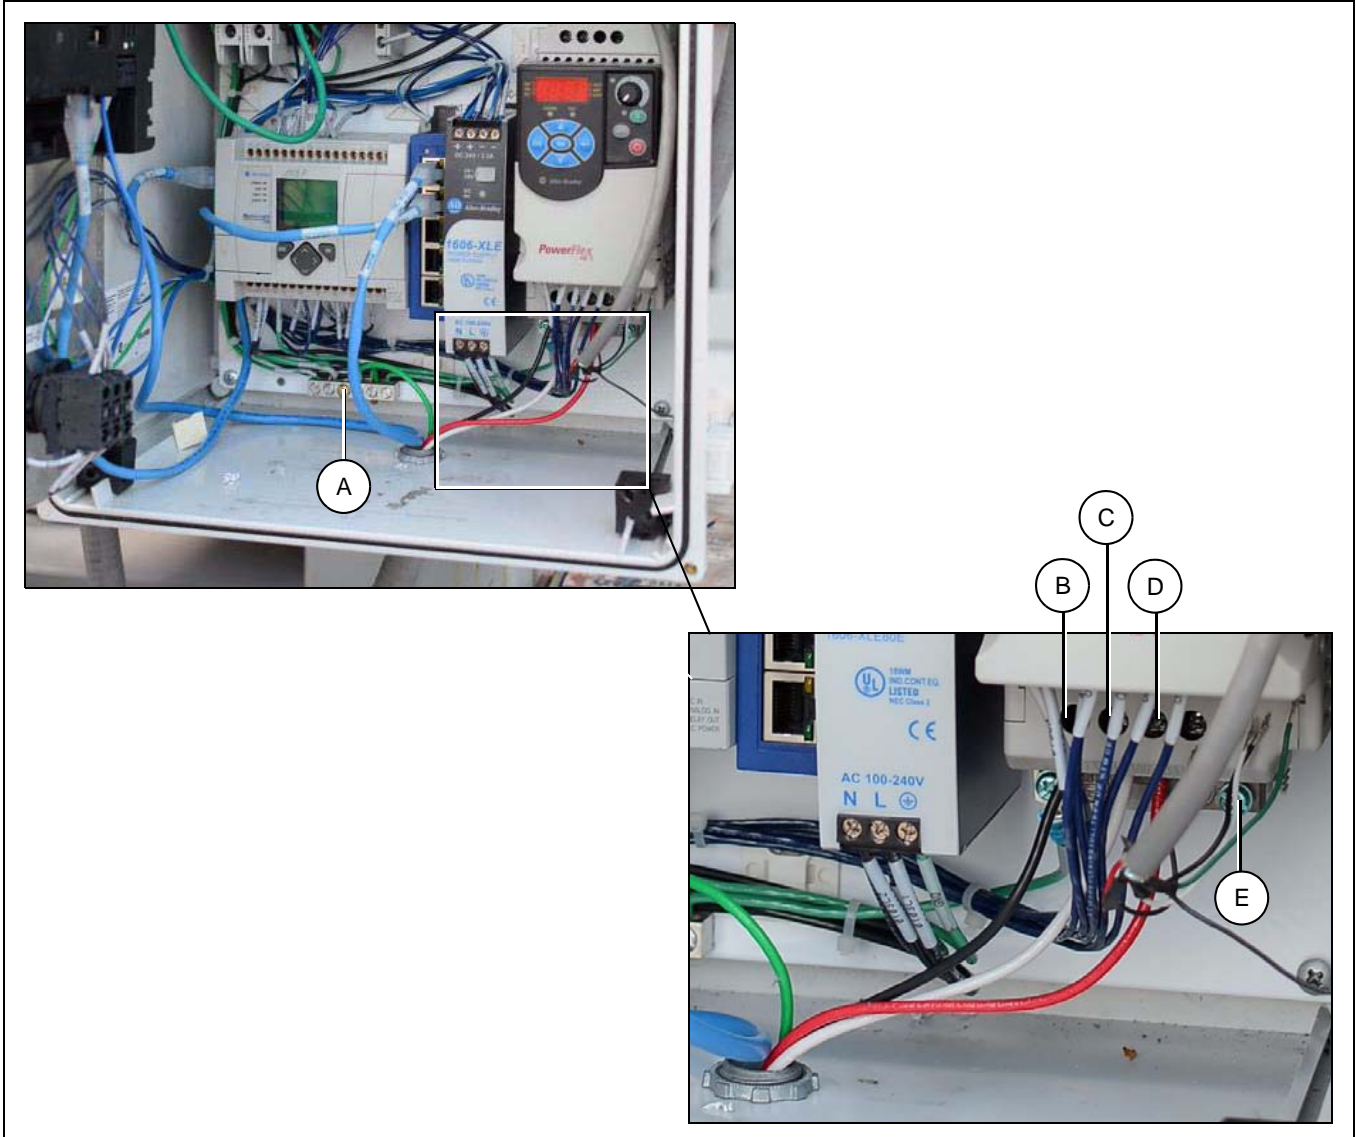
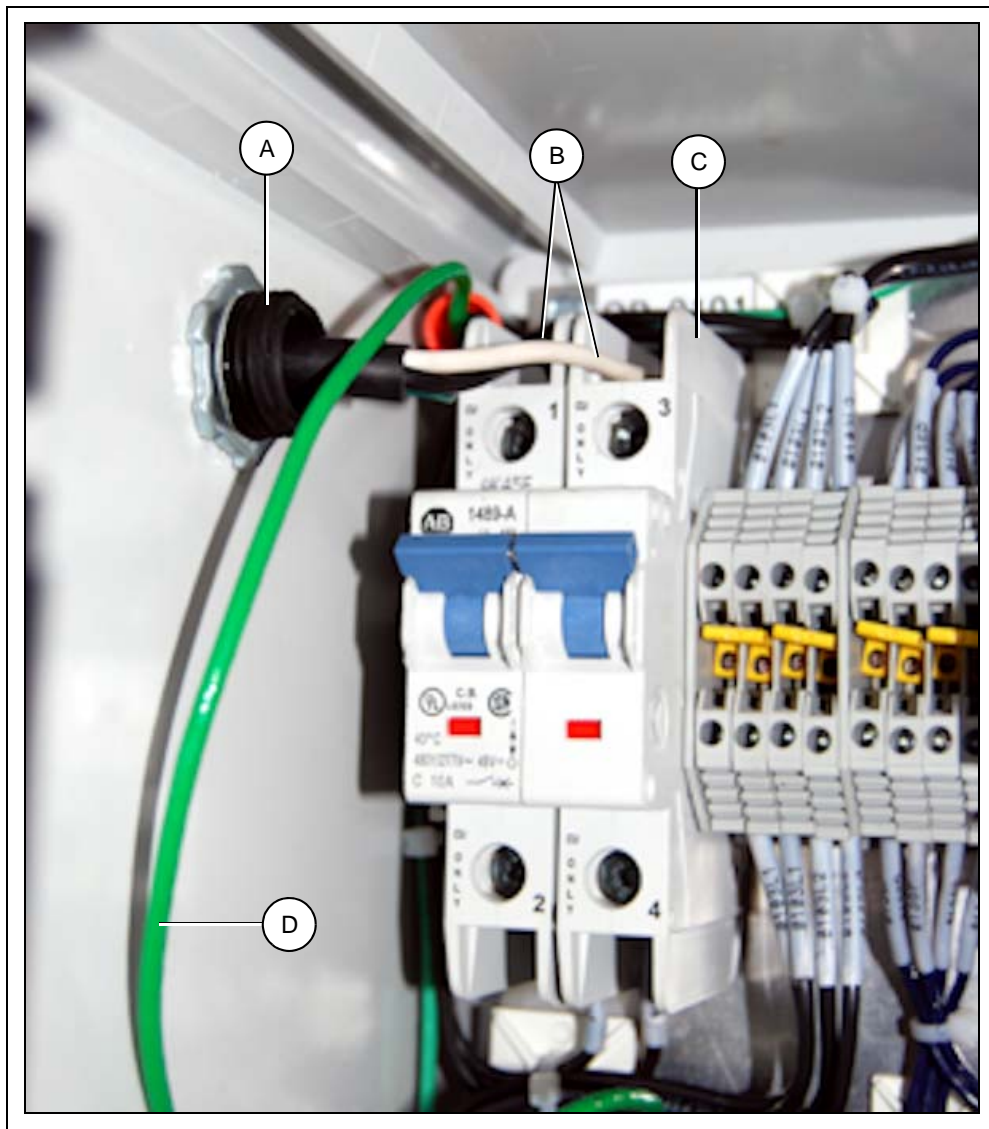

Figure 3H Control Panel Wiring from Motor Electrical Connections
Figure 3J Control Panel Wiring from Motor Electrical Connections
Connect the motor wiring to the terminals on the Variable Frequency Drive (VFD) in the control panel (DEC0110) as shown in Figure 3H. Please note that the U-V-W order of the wires is not configured as labeled on the VFD. Motor wiring should be kept as far away from sensor wiring terminal blocks as the installation configuration permits.
Install power supply cable through the control panel (DEC0110) using suitable hardware as shown in Figure 3J.
Connect the power supply hot wires (B) to the control panel circuit breakers (C) as shown in Figure 3J.
Connect the power supply ground wire (D) as shown in Figure 3J to the ground terminal block as shown in Figure 3H on Page 18.